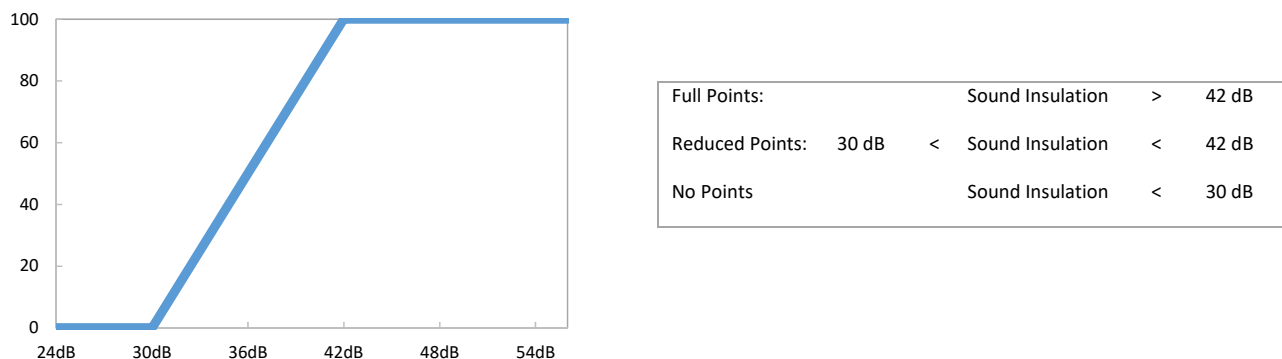

Figure 11: Internal acoustical performance points distribution
- b) Reduced points are earned if the sound insulation level is between 30 dB and 42 dB. Reduced points values are scaled linearly, as shown in Figure 11.